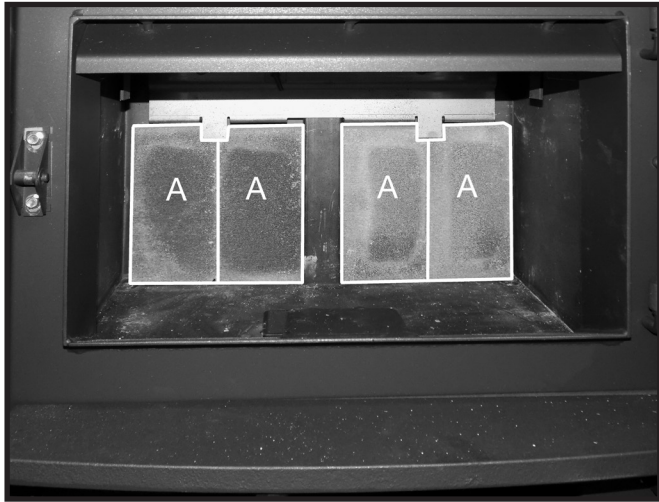

Figure 13: Remaining rear wall firebricks in place.
1. Stand one "A" firebrick vertically behind the tab located on the brick rail. Slide the firebrick toward the center of the rear wall (Figure 13). Slide a 2nd "A" firebrick underneath the tab on the brick rail (Figure 13). Repeat steps 1 & 2 for the placement of the other "A" firebricks on the rear wall (Figure 13).